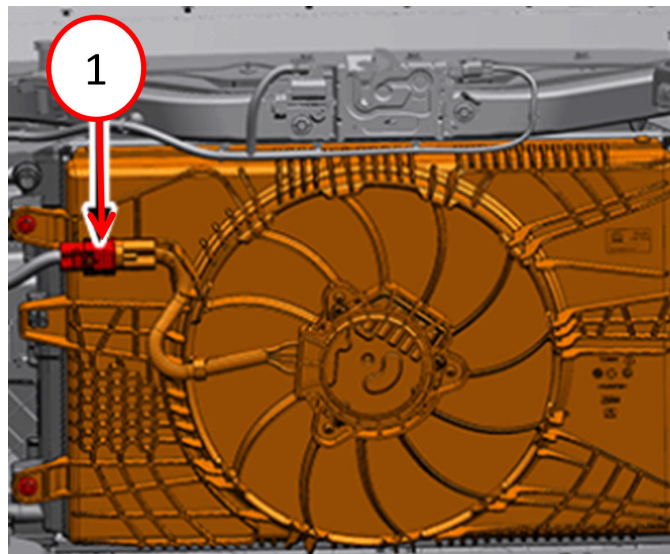

Fig. 1
4. Disconnect the cooling fan wire harness connector Fig. 1.
26. Connect the cooling fan wire harness connector Fig. 1.